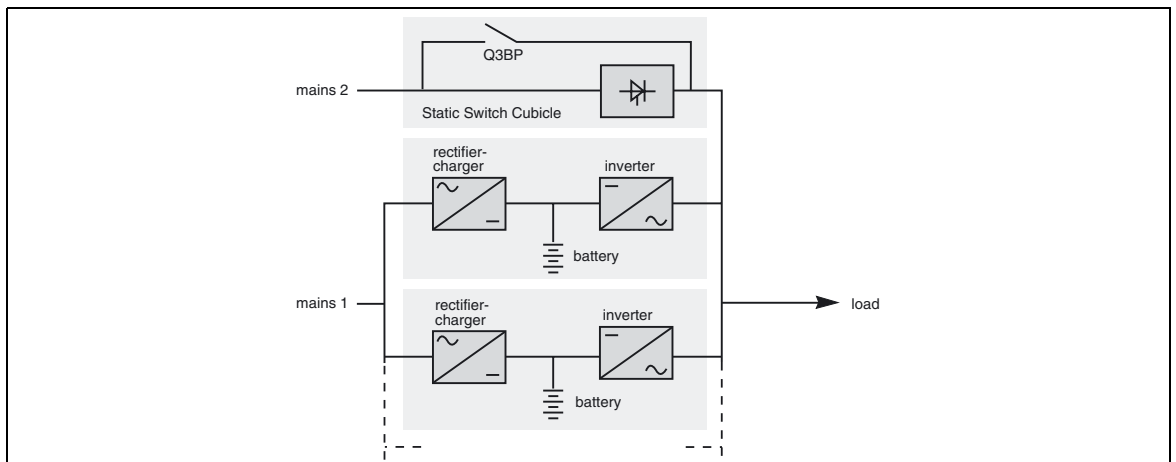

**Fig. 6**
- Frequency converters with backup power: (figure 6)